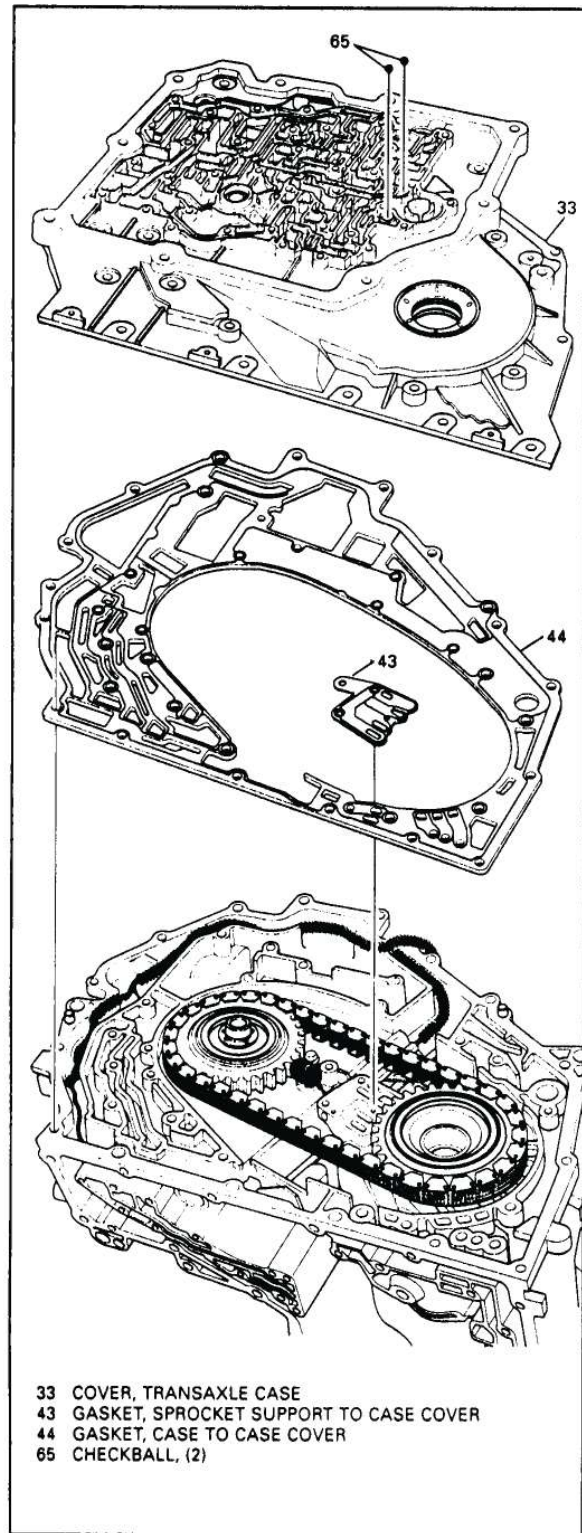

Figure 109
2. Install NEW island gasket (43) over guide pins onto sprocket support. (See Figure 109).
3. Install NEW case cover gasket over the dowel pins onto case (See Figure 109).
5. Install the case cover over the dowel pins and onto case (See Figure 109).